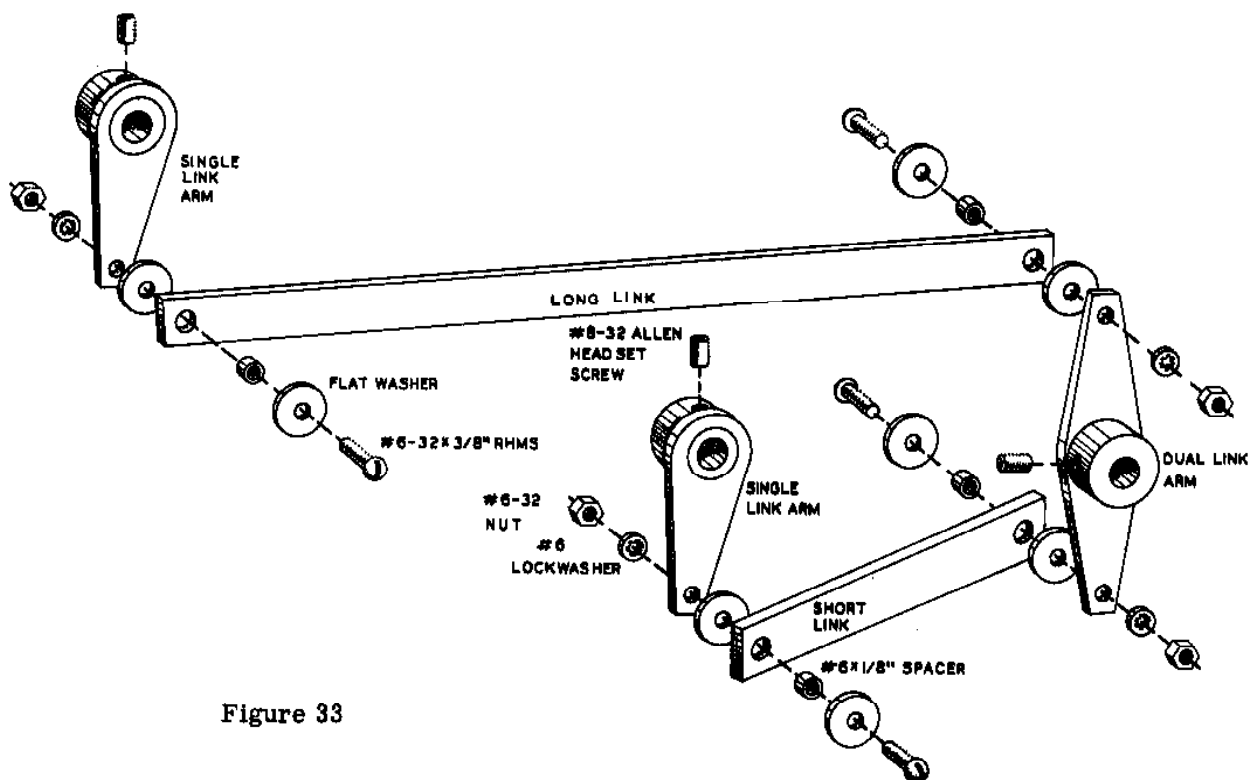
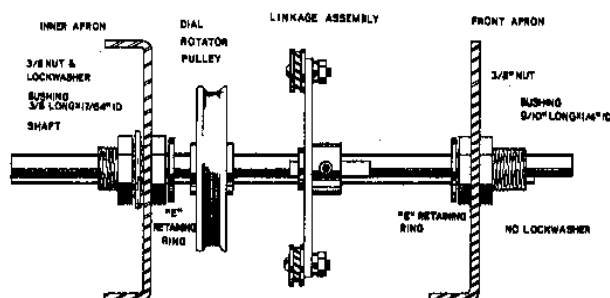

Figure 33
Figure 34
- () Locate the two single link arms, the dual link arm, and the long and short links. Start #8-32 x 1/4" Allen head set screws in the three hubs. Refer to Figure 33 for the link drive assembly. When securing the link to the arms, use a #6-32 x 3/8" RHMS. Place a #6 flat washer next to the screw head, then slip a #6 x 1/8" spacer on the screw. Insert the group through the hole in the link, through another #6 flat washer, then pass the screw through the hole in the end of the link arm and secure with a #6 lockwasher and nut. The link is always secured on the side of the link arm away from the hub, as shown.
- (X) Rotate the final band switch full CCW. Referring to Pictorial 23, place the single link arm on the end of the long link on the final band switch shaft hub first. Position with the link arm flush with the end of the switch shaft and tighten the set screw securely on the flat of the shaft. Now rotate the final band switch full CW.
- () Locate the band switch shaft. This is the shaft with two flats on it. Refer to Figure 34. Mount a 9/16" long shaft bushing with a 1/4" ID at hole F as was done at hole E. Insert from the rear of the front apron and secure temporarily with a 3/8" nut. Slide the end of the band switch shaft with the plain end through the bushing F from the front, then through the hub of the dual link arm. (At this time, slip the single link arm on the end of the short link over the exciter band switch shaft FD). See Pictorial 23. Slip the 1 1/4" string pulley on the end of the band switch shaft, hub first, then slide the shaft on through bushing FH on the inner front apron. Position the shaft until both grooves are visible between the shaft bushings, then insert an E retaining ring in each groove.